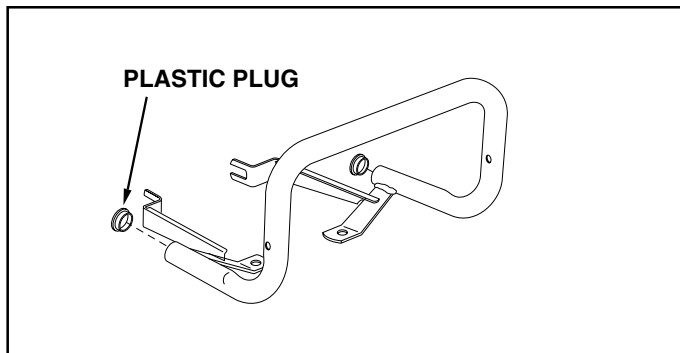

FIGURE 2
- Push the plastic plugs into the ends of the base assembly tubes. See figure 2.